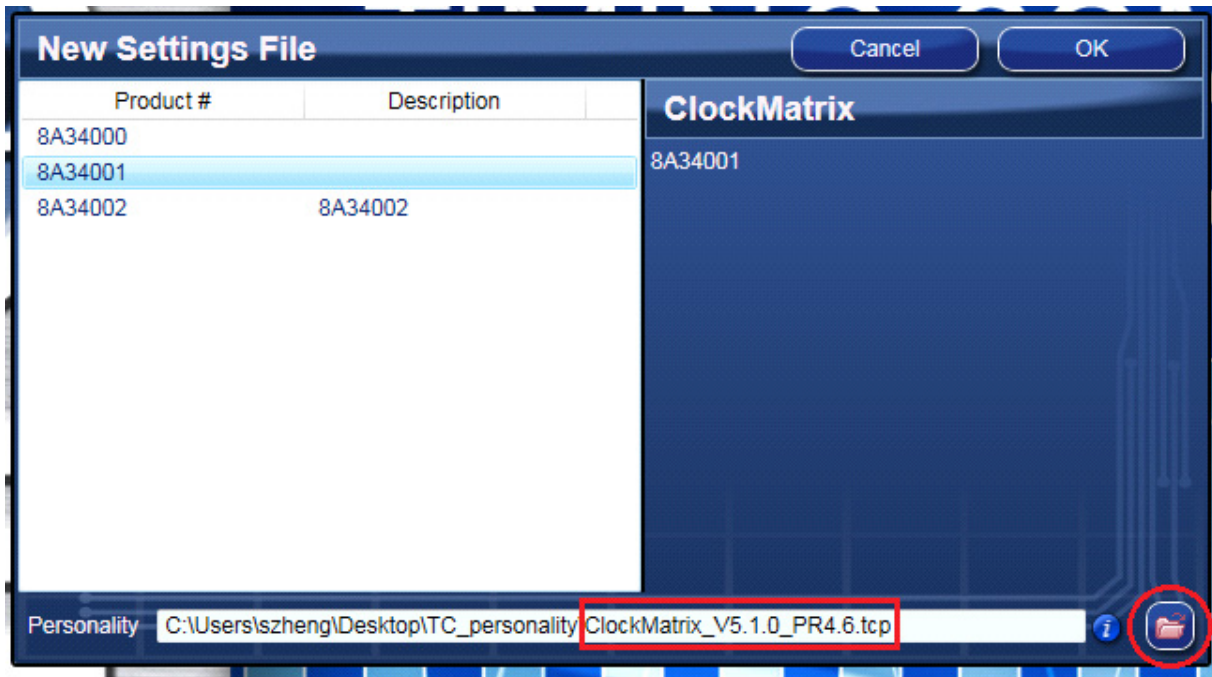

Figure 7. Selecting 8A34001 using Personality File v4.6
3. After selecting "New Settings File", a device selection window will pop up (see Figure 7). In the window, choose the intended device in the list (in this example, 8A34001 is selected).